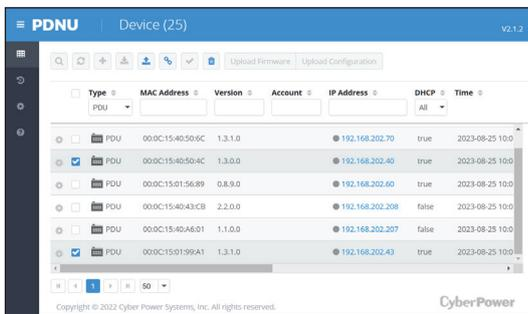

Figure 5. Equipment List
Step 1. Select the appropriate ATS PDU device from the Equipment List and then click **Connection** button on the top tools list to set up.(Shown in Figure 5).